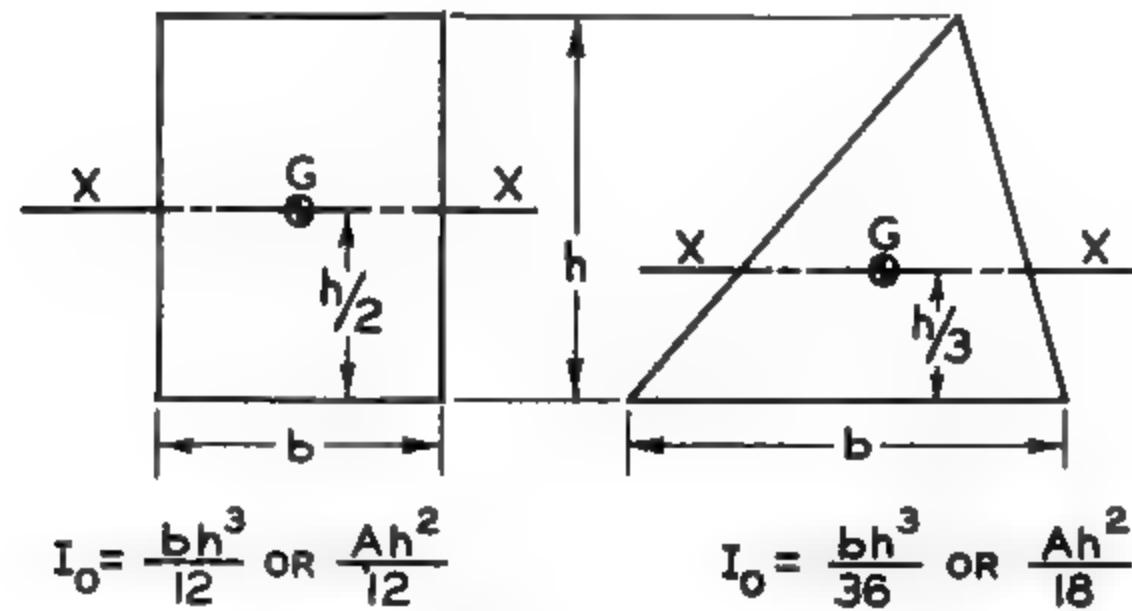
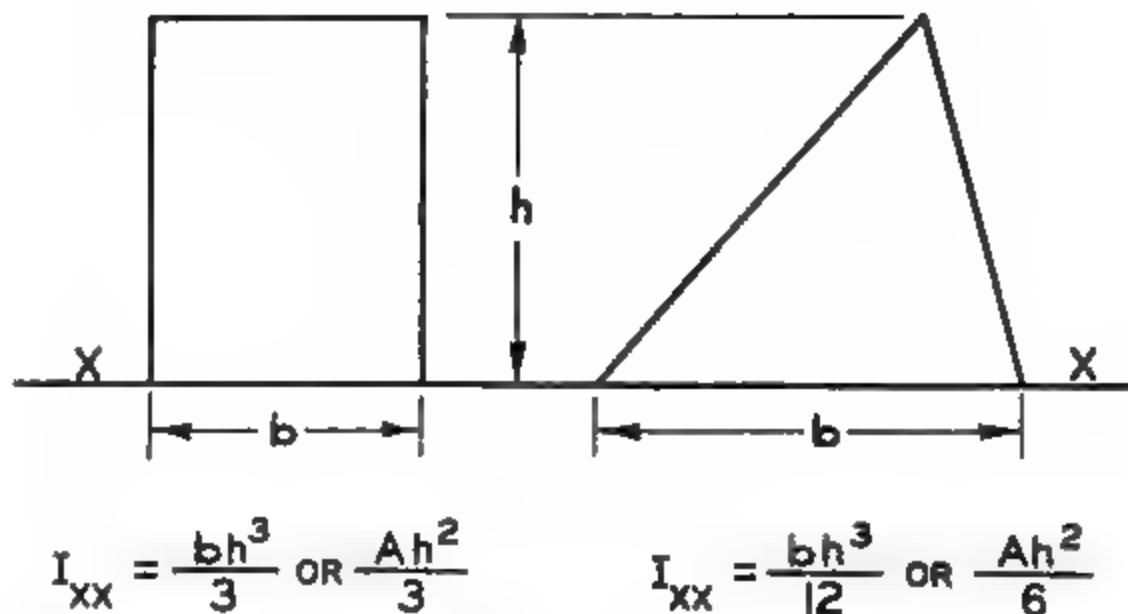
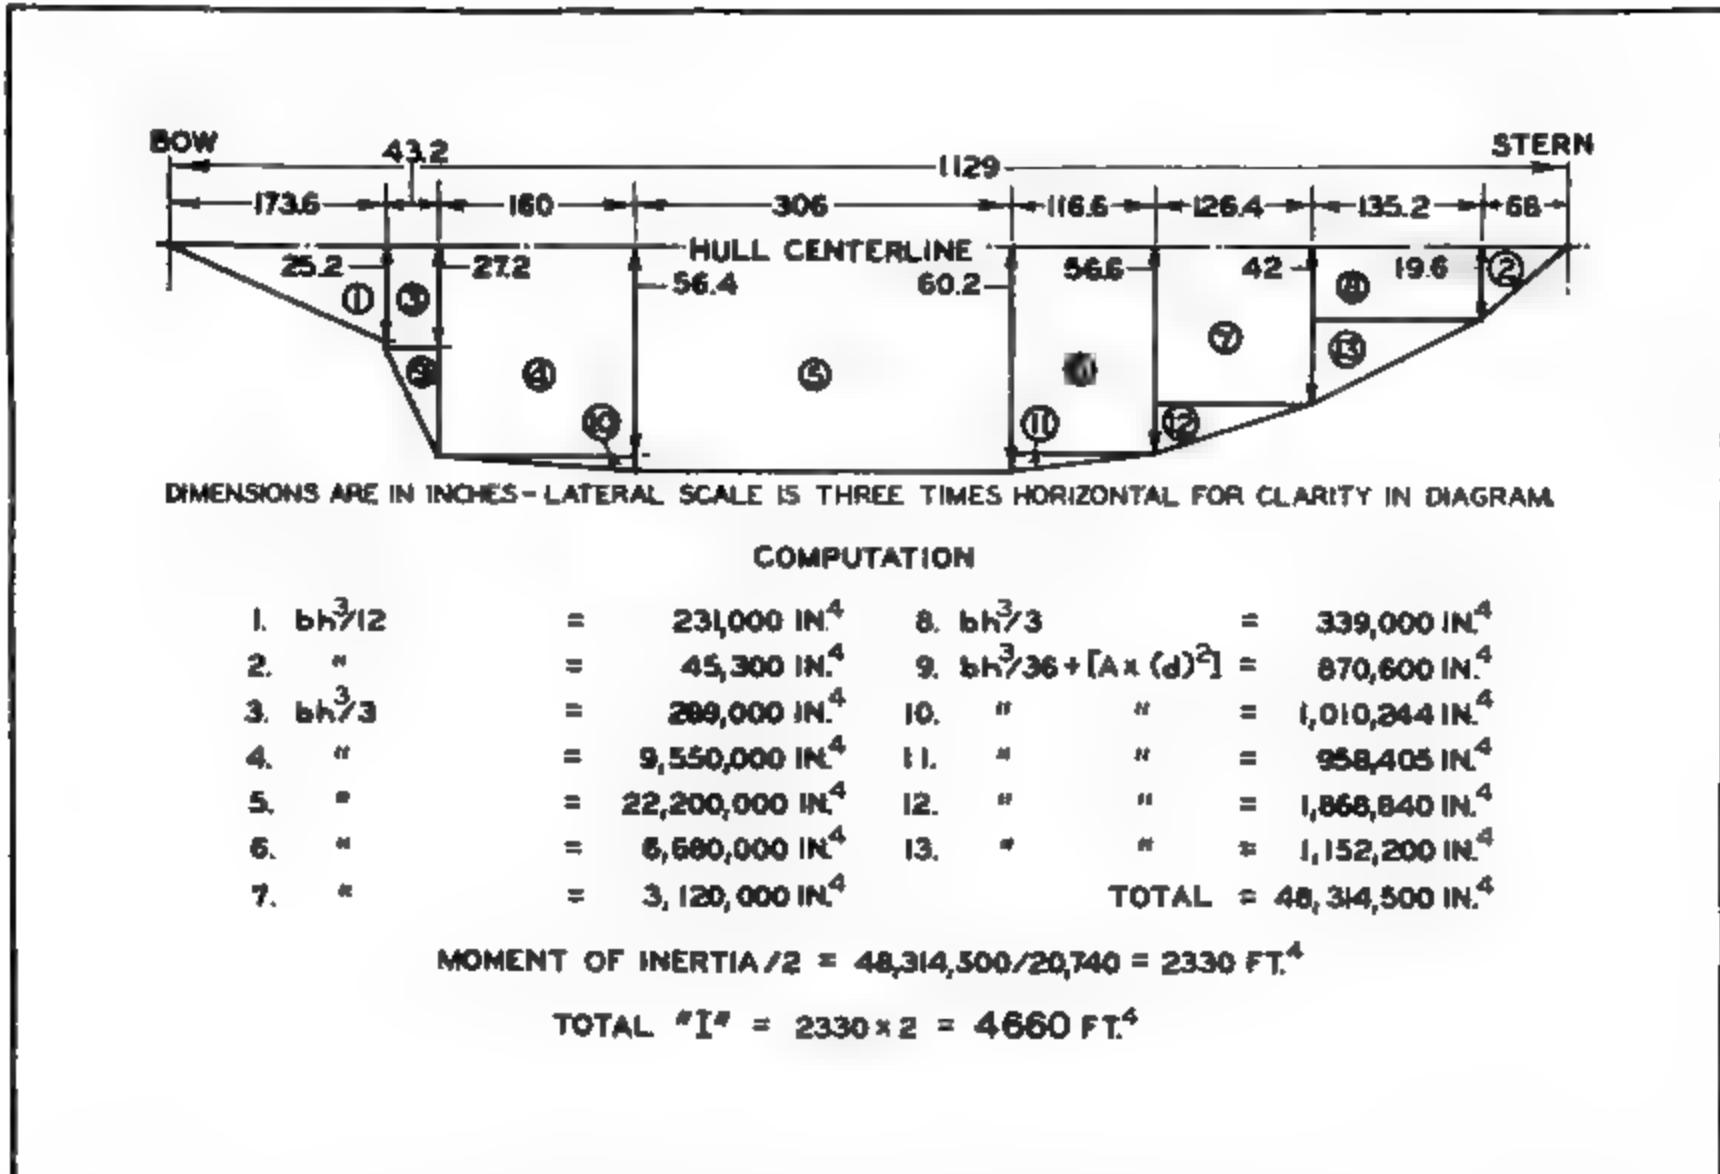
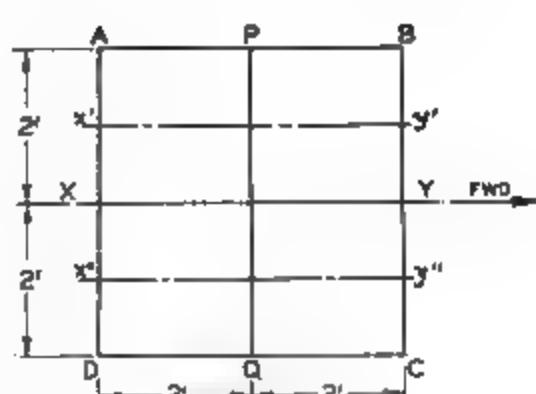

Fig. 4. Moment of inertia of plane figures about axis through C.G.
Fig. 5. Moment of inertia of plane figures about axis along one edge.
Fig. 7. Moment of inertia of hull waterplane area.
Fig. 9. Representation of baffling of free liquid surfaces.
All engineering handbooks tabulate formulas for the moment of inertia of regular figures, several of which are repeated here. These moments of inertia are usually presented in two forms—first being when the axis is through the C.G. of the figure and parallel to the baseline, as illustrated in Fig. 4 (known as the I_0 of the figure, such moment of inertia always being less than that about any other axis parallel to it); second, when the axis is one of the sides, as shown in Fig. 5.
method is difficult to compute, and wishing to take advantage of the standard formulas given for regular figures in handbooks, it has been found that an approximate method, utilizing the standard formulas, is sufficiently accurate for seaplane analysis. First step is to lay out waterplane halfbreadths from hull centerline, as shown in Fig. 7. This is the half section of the hull cut by the plane of the normal free water surface when at rest. The irregular area is then divided into a series of rectangles and triangles which closely approximate the irregular area. Now, the moment of inertia of each regular area can be readily computed from the standard formulas, and the sum of all such moments of inertia very closely approximates the original waterplane.
Care should be exercised to use the appropriate formula—for not only the shape of the area in question, but also for its position. Whenever a rectangle or triangle has a base that is common to the hull centerline—such as areas (1) and (4) of Fig. 7, I is computed as shown in Fig. 5. However, when the area is removed from the hull centerline, such as area (12) it is necessary to first compute its I_0 about an axis through its C.G. and parallel to the hull centerline, as shown in Fig. 4, then multiplying this I_0 by the product of the area and the distance from area C.G. to hull centerline squared. It should be remembered that the C.G. of a triangle is one-third the height from the base.
If inch-dimensions are used, the units for moment of inertia will be inches to the fourth power. This can then be reduced to feet to the fourth power by dividing by 12⁴ or 20,736, as shown in Fig. 7. (Since the semi-waterplane has been used, it is necessary to multiply by two to obtain total waterplane inertia.) For most practical purposes, the preceding method for determining moment of inertia of waterplane area is sufficiently accurate and is recommended to the seaplane designer.
It should be pointed out here that the amount of liquid does not affect the result, but only the *moment of inertia of the free surface*. The foregoing discussion emphasizes the necessity for adequate baffling in the fuel tanks, and the prevention of accumulated water in the hull bulges. It is also apparent that the baffles should be placed in a fore-and-aft position, thus dividing the tanks into compartments with a minimum of lateral width. This is easily demonstrated by reference to Fig. 9. If we assume a fuel tank where the plan view is represented by $ABCD$, its i about the fore-and-aft axis XY is, from Fig. 4, $4 \times 4^4/12$ or 21.33 ft.^4 . If the lateral baffle PQ is installed, the tank is divided into two tanks $APQD$ and $PBCQ$. The total i now becomes